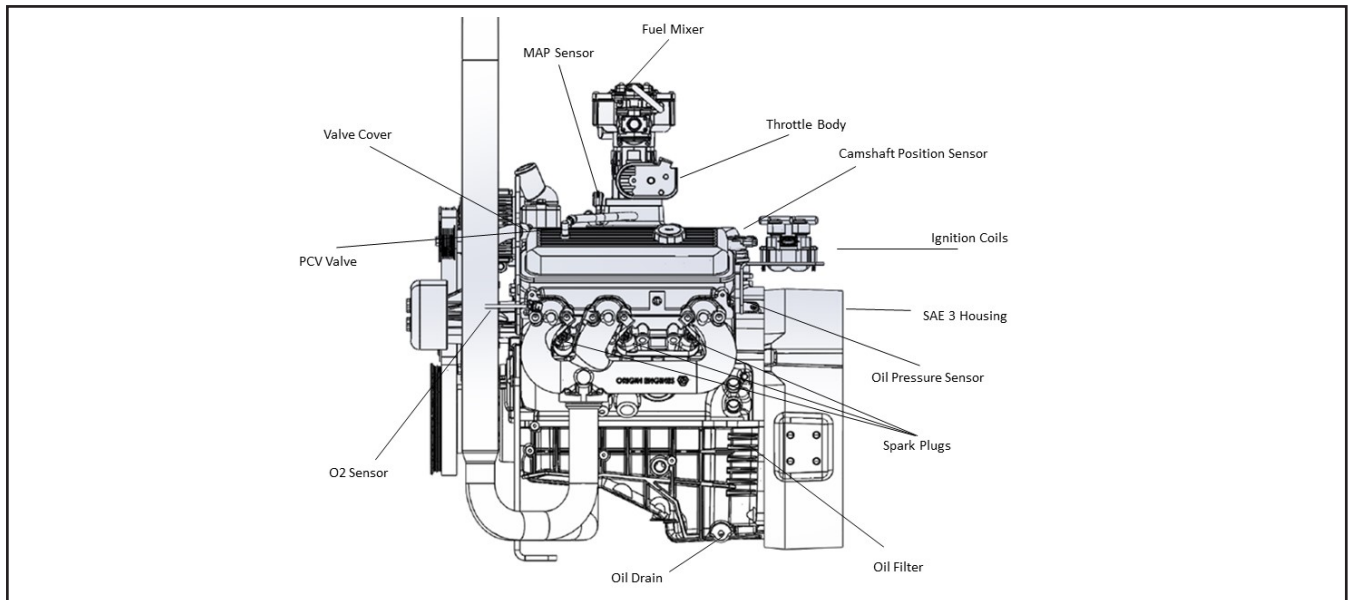

Figure 23 Oil Fill and Drain Valve Location
2. Place a drop cloth and collection container beneath the oil drain valve. See Figure 23.